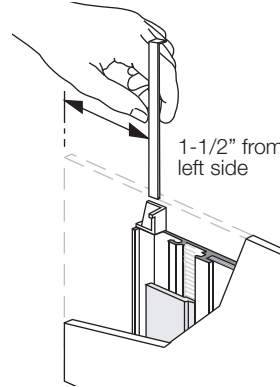

Fig. 3
Step 3. Loosely position the sign just off of the wall surface and ensure the sign is level. (ref Fig. 3) When ready, affix the sign to the wall and then apply pressure to the center portions of the sign in order to activate the tape adhesion. **DO NOT APPLY PRESSURE TO THE OUTER EDGES OF THE SIGN'S INSERTS** where they overhang the recessed aluminum chassis.